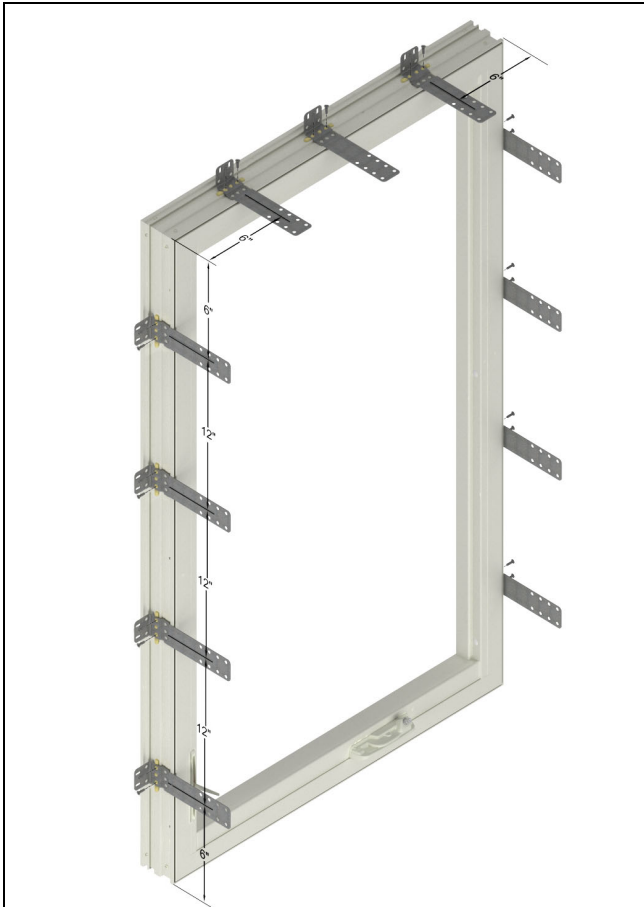
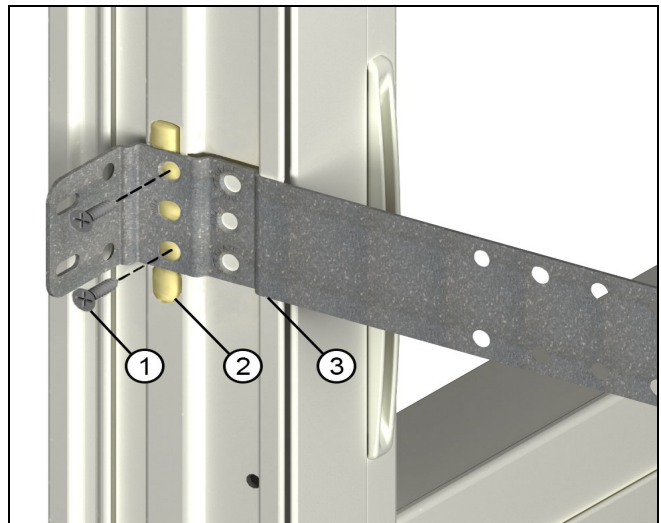
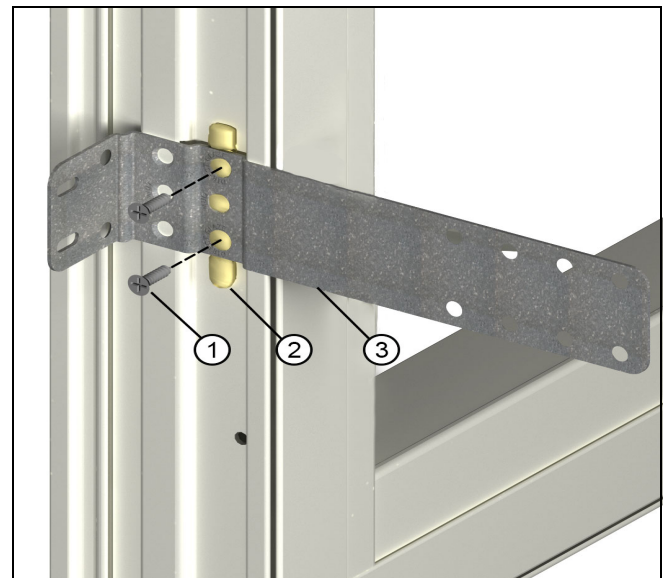

Figure 7
Figure 8 All product except Direct Glaze
Figure 9 Direct Glaze
4. If you are installing a window with structural brackets apply a 3/16" (5) diameter 1 1/2" (38) long bead of heavy duty construction adhesive in the exterior jamb channel. The adhesive is to be placed 6" (152) in from each corner and spaced 12" (305) apart along the head jamb and jambs of the unit. Press the 90-degree bent structural brackets firmly into place over the adhesive and secure with the two provided screws in the structural bracket kit. See Figure 7, Figure 8 and Figure 9.